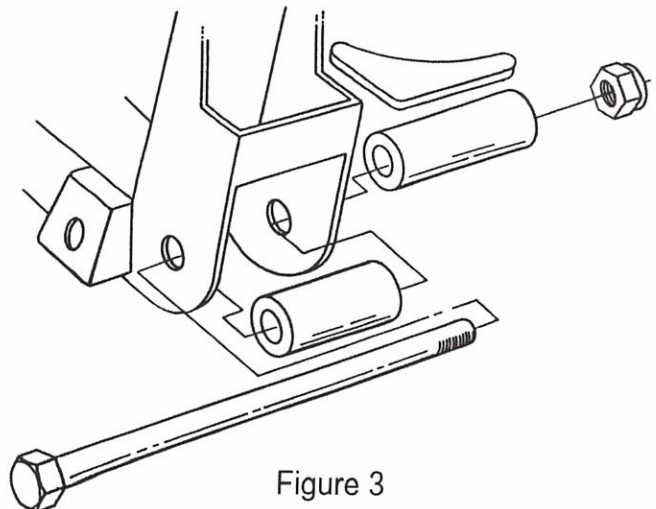

Figure 3
5. If you purchased a complete I.F.S. Package it was supplied with Full Lower A-Arms. Begin by installing the Spacers onto the crossmember. The holes where the lower control arms attach to the Crossmember must be enlarged to 5/8". Mount the Crossmember Spacers and the Rear Spacers which were supplied with the Lower Control Arms onto the Crossmember as shown in Figure 3 using the supplied Inner Bushing Bolts, Nuts and a temporary spacer under the Nuts. DO NOT use the A-Arms for this operation as the welding heat will melt the rubber bushings. Tighten the Bolts and Nuts tight. Weld the Rear Spacers to the Crossmember all around. Weld the Crossmember Spacers as far as possible inside the crossmember on both ends. Position the Gussets horizontally, not vertically, against the Rear Spacers and the back of the Crossmember. Weld Gussets to Spacers and Crossmember. When it cools, remove the bolt.